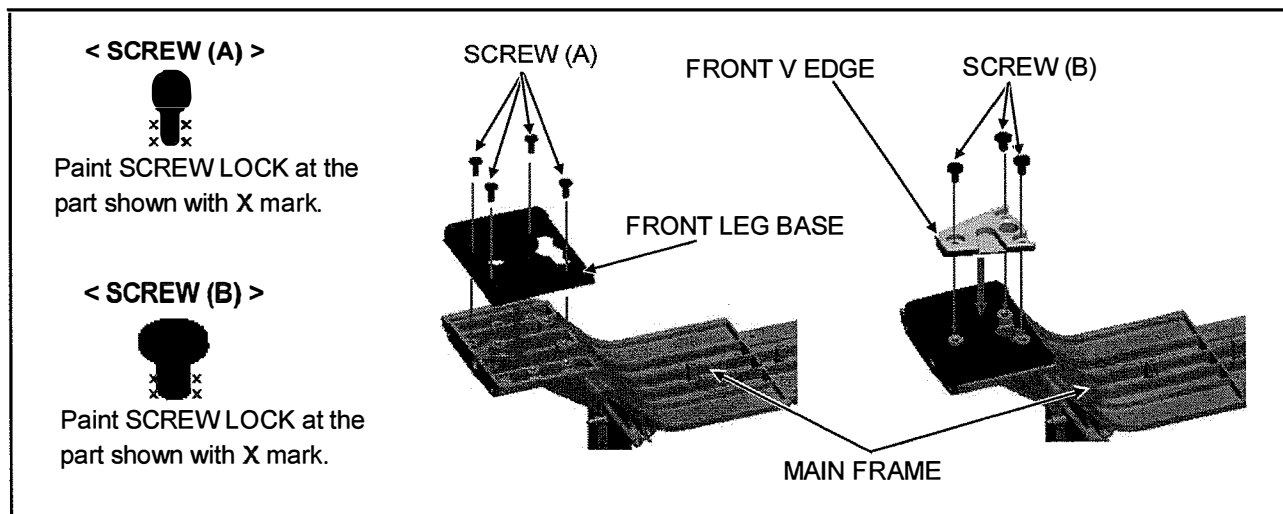

Figure 7-9
1. Tighten the screw (A) with $[80 \pm 5\text{cN}\cdot\text{m} (8.2 \pm 0.5\text{kg}\cdot\text{cm})]$ of torque as shown in figure 7-9, when you assemble the FRONT LEG BASE to MAIN FRAME.
2. Tighten the screw (B) with $[110 \pm 5\text{cN}\cdot\text{m} (11.2 \pm 0.5\text{kg}\cdot\text{cm})]$ of torque as shown in figure 7-9, when you assemble the FRONT V EDGE to MAIN FRAME.